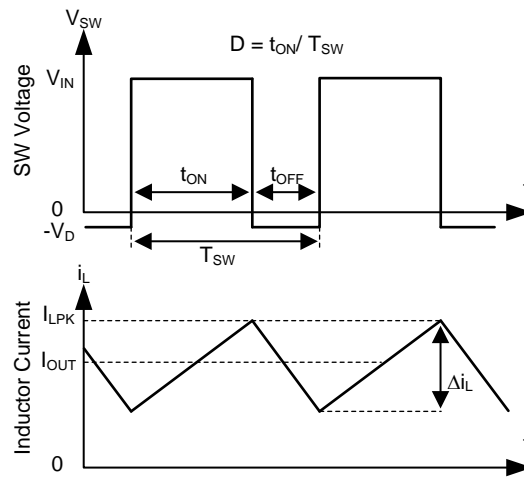

Figure 13. SW Node and Inductor Current Waveforms in Continuous Conduction Mode (CCM)
The following operating description of the LMR23630 will refer to the Functional Block Diagram and to the waveforms in Figure 13. LMR23630 is a step-down synchronous buck regulator with integrated high-side (HS) and low-side (LS) switches (synchronous rectifier). The LMR23630 supplies a regulated output voltage by turning on the HS and LS NMOS switches with controlled duty cycle. During high-side switch ON time, the SW pin voltage swings up to approximately V_{IN} , and the inductor current i_L increase with linear slope $(V_{IN} - V_{OUT}) / L$. When the HS switch is turned off by the control logic, the LS switch is turned on after an anti-shoot-through dead time. Inductor current discharges through the LS switch with a slope of $-V_{OUT} / L$. The control parameter of a buck converter is defined as Duty Cycle $D = t_{ON} / T_{SW}$, where t_{ON} is the high-side switch ON time and T_{SW} is the switching period. The regulator control loop maintains a constant output voltage by adjusting the duty cycle D . In an ideal buck converter, where losses are ignored, D is proportional to the output voltage and inversely proportional to the input voltage: $D = V_{OUT} / V_{IN}$.